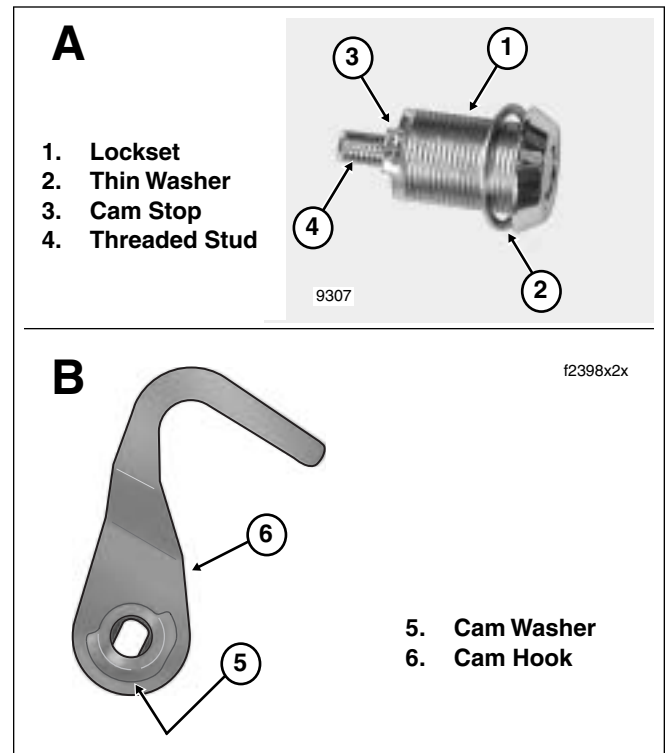

Figure 2-151. Lockset Mechanism
2. At outside of Tour-Pak, remove lockset. Remove thin washer from threaded body of lockset. See A of Figure 2-151.
1. Slide thin washer down threaded body of lockset. See A of Figure 2-151.
6. Align cam hook and cam washer as shown in B of Figure 2-151. With the cam hook toward the front of Tour-Pak lid and cam washer on the inboard side, slide assembly down threaded stud.